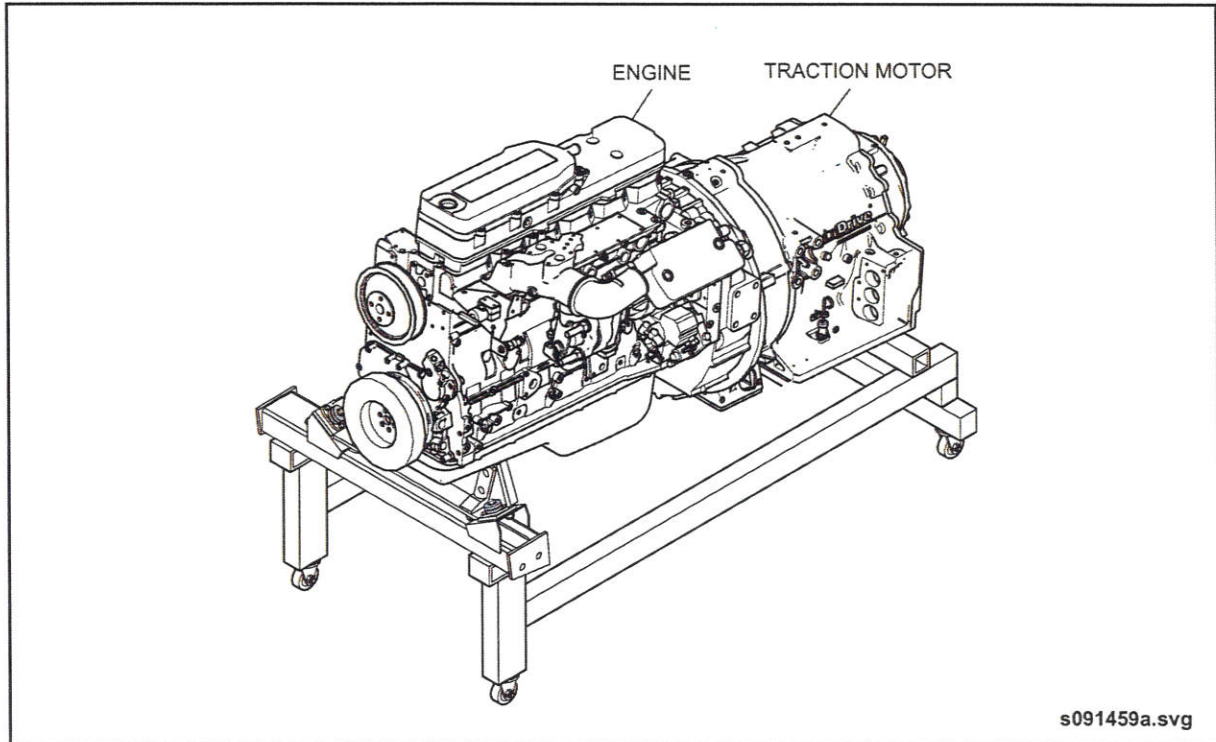

Fig. 4-5: Engine Support Dolly
- 26. Carefully roll the support dolly out from the engine compartment. See "Fig. 4-5: Engine Support Dolly" on page 7.